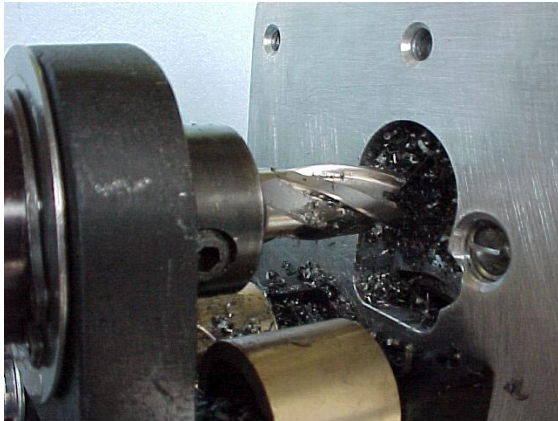

FIGURE 9
4. Apply consistent pressure of 100 to 110 inch lbs. to the torque wrench to control boring tool feed rate pressure during the initial stages of the coring operation. **Apply generous amounts of coolant/lubricant (LPS-1) to the work surface and rotobroach throughout the machining operation.** Occasionally back the rotobroach away from the work surface to clear the cutting flutes of machining debris. See Figure 9.